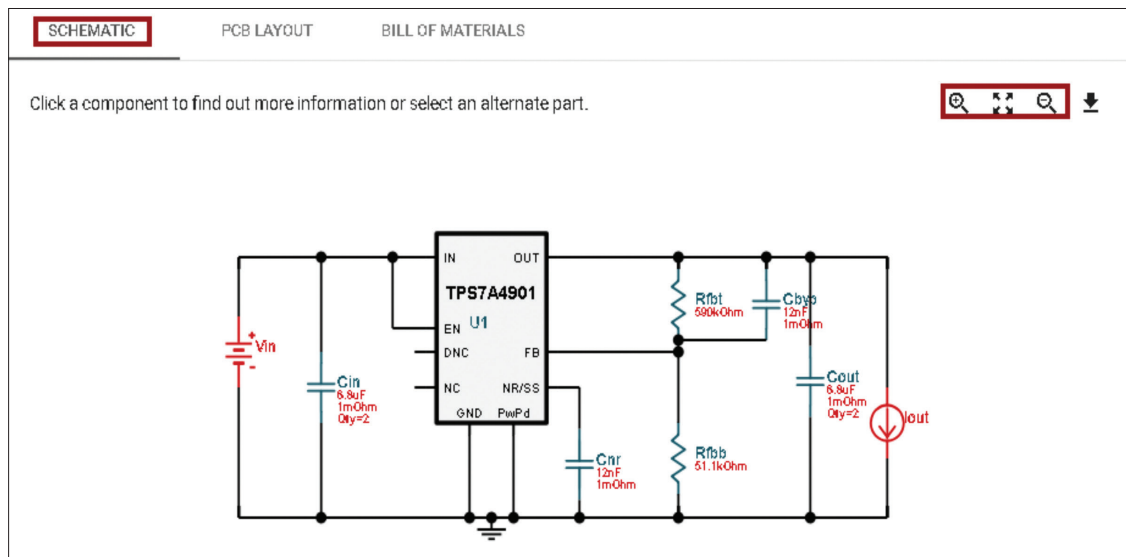

Figure 2.
3. You can click on the schematic to expand and view your **WEBENCH** design as shown in **Figure 2**.